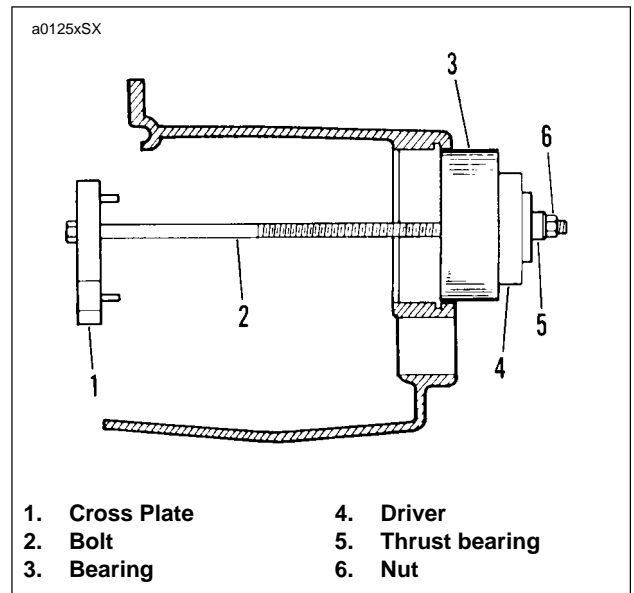

Figure 6-79. Installing Mainshaft 5th Gear Ball Bearing
2. See Figure 6-79. Insert bolt (2) through cross plate (1), **new** bearing (3), driver (4) and thrust bearing (5). Thread nut (6) on end of bolt. Tighten nut carefully until bearing is started in bore squarely. Tighten nut (6) until bearing is seated against shoulder in bore.